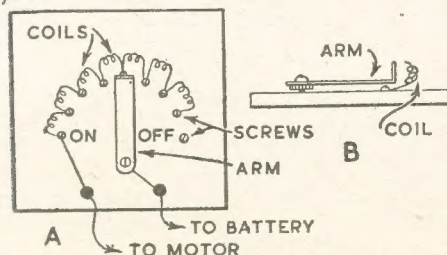

Fig. 1—Layout of circuit and side view
The controller is built on a wooden base about $2\frac{1}{2}$ ins. by $2\frac{1}{2}$ ins. by $\frac{1}{4}$ in. thick. On this, mark off a semicircle with a radius of about 1 in. and divide this into nine or ten equal sectors. At each point screw in a small brass round-headed wood screw, as shown (A) in Fig. 1. Do not drive these screws in completely yet.
Two small terminals are mounted on the base. The loop of wire mentioned goes to one. The second is connected to one screw in the semicircle, marked 'ON', in Fig. 1.
join the two ends thus formed to the terminals (see Fig. 1). When the switch is in the 'OFF' position no current will flow. The current will increase as the arm is moved round, reaching maximum at the 'ON' position, with no resistance in circuit.